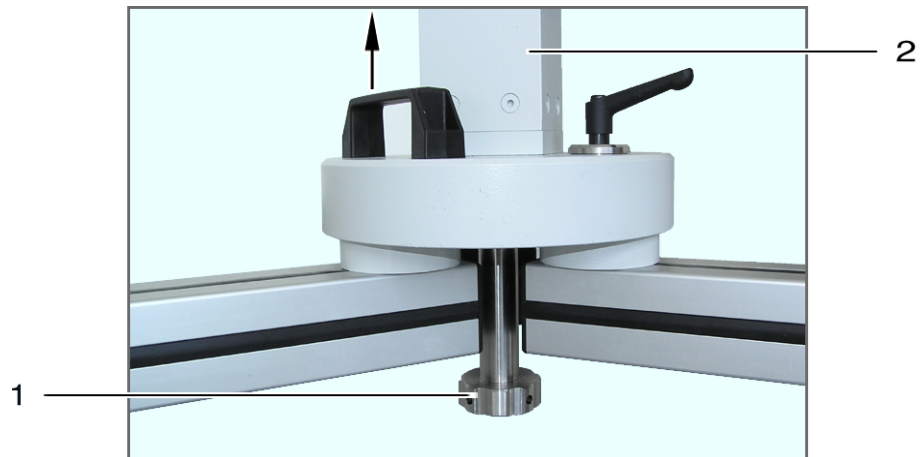

Fig. 49: Tripod foot with tripod support
12. Undo fastening screw and remove tripod support from tripod foot in the direction of the arrow (see Fig. 49)